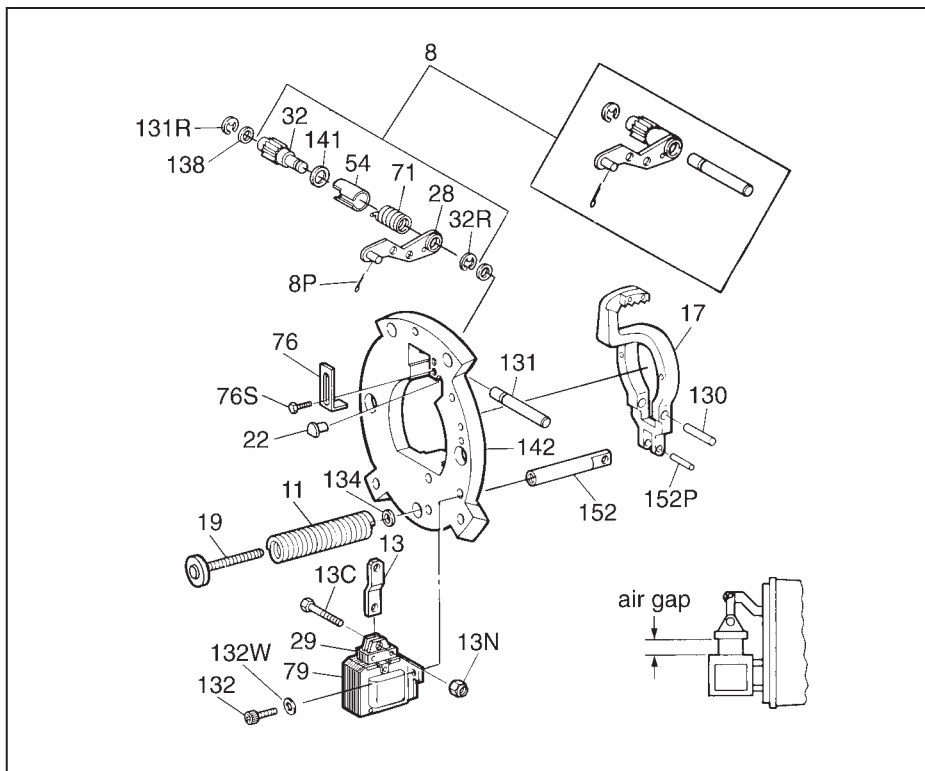

Figure 7
D. Self-adjust maintenance (see Figure 7)